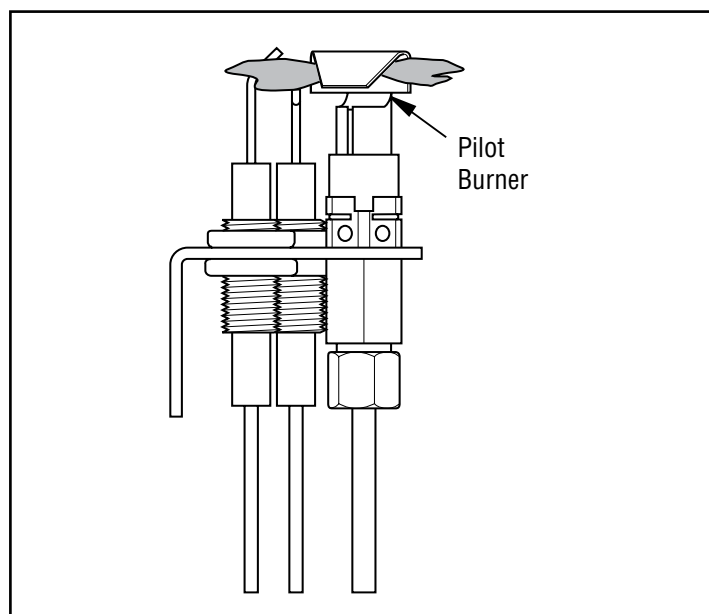

Figure 48 - Correct Pilot Flame Pattern
- Turn the adjustment screw marked PILOT clockwise to decrease or counterclockwise to increase the flame to proper size (*see Figure 48*). Do not remove the adjustment screw.